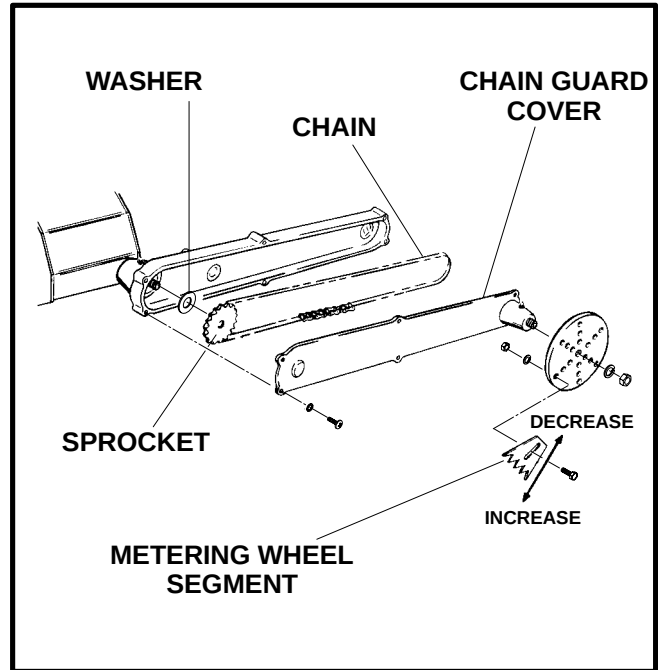

FIGURE 15
1. Remove metering wheel for easier access to screws in chain guard. Refer to Figure 15.